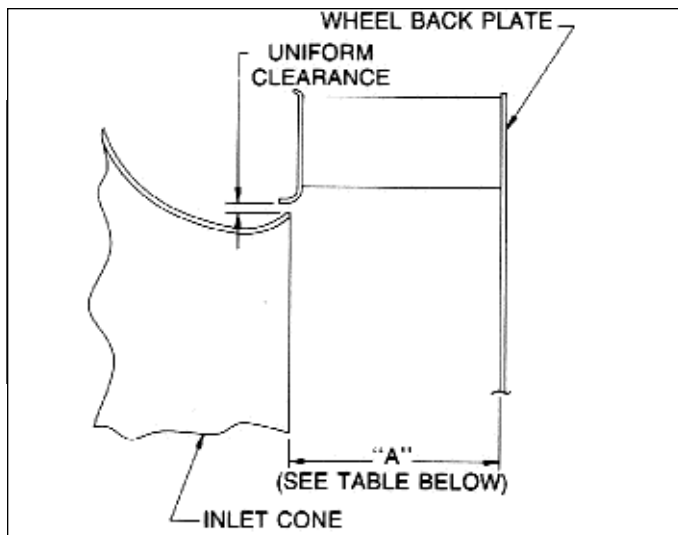

Figure 2
6. When installing a new wheel or cone, the proper wheel-to-inlet cone clearance must be maintained (see Figure 2 for correct full-width wheel dimensions).